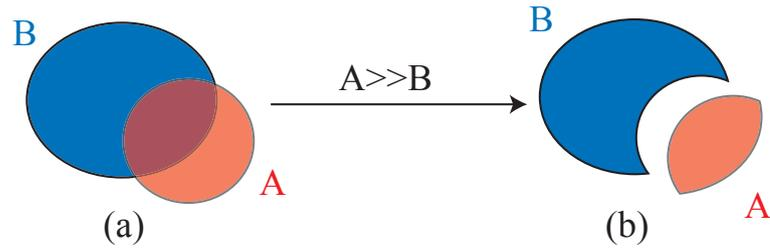

Figure 4.1: Operator \gg (put in). (a) A and B before the action of the operator ; (b) A and B after the action of the operator.
- if A is a normal *Shape_ptr*: a $A \gg B$ modifies both A and B; A becomes $A \cap B$ and B becomes $B \cap !A$ (see figure 4.1)
Note that now S and B are new *Shape_ptr*: $S=S \& !B$ (i.e. the sphere without the brick) and $B=S \& B$ (i.e. the intersection of the brick and the sphere) as already mentioned above (see fig. 4.1).